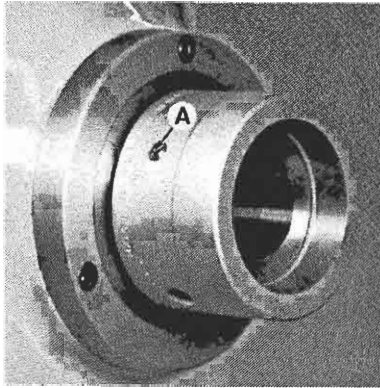
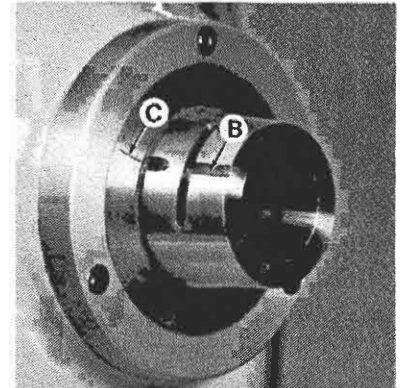

Figure 1
Figure 2
DO NOT USE TOOLING if lock pin "A", Figure 1, is broken or worn. Replace a damaged or worn lock pin with a genuine Hardinge replacement part. Failure to do so can result in the locking mechanism becoming ineffective and making further use a potential safety hazard.
2. Align key "A", Figure 1, with bayonet slot "B", Figure 2, and slide tooling on spindle nose.
To remove taper nose spindle tooling, turn tooling with spanner wrench until key "A", Figure 1, is aligned with reference mark "C", Figure 2, on the spindle. **DO NOT REMOVE KEY "A", FIGURE 1, TO REMOVE SPINDLE NOSE TOOLING.**